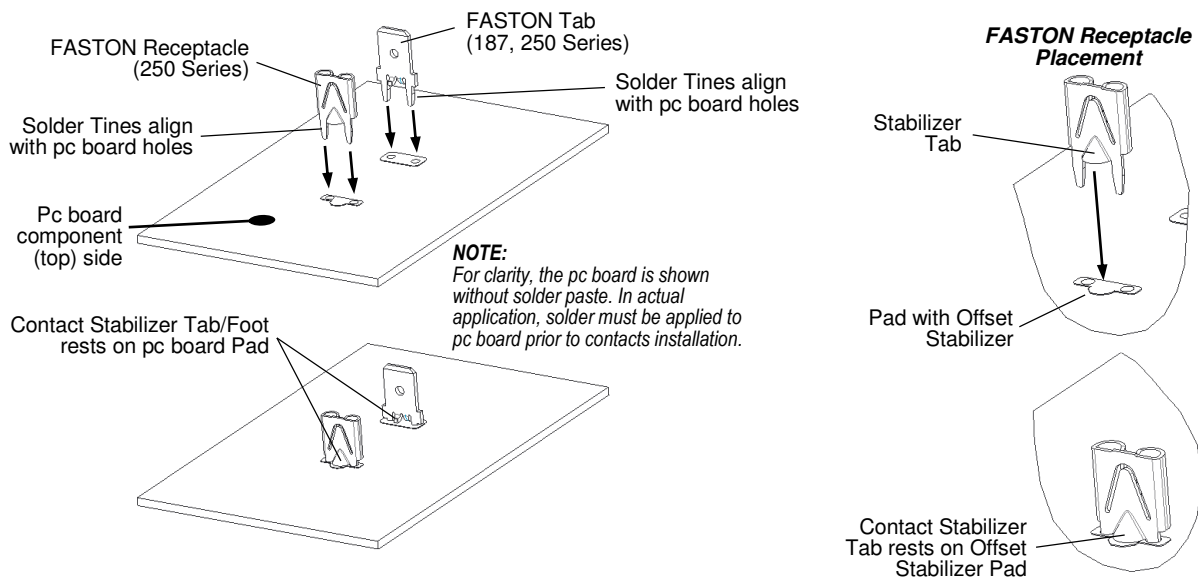

Figure 3
The contact installation is similar for both Tab and Receptacle contacts. However, the Receptacle contact has an orientation with respect to the pc board pad that must be observed. Contacts provided loose-piece can be placed on the pc board manually. Alternatively, contacts can be provided on a reel and placed with an automatic machine having a cut-off and gripper tool. The installation procedure for each contact is described below and is shown in Figure 3.
- b. Receptacle contacts have a preferred orientation with respect to the component-side solder pads that must be observed. The Receptacle Stabilizer Foot must align with the pc board pad “offset stabilizer” feature as shown in Figure 3.
Receptacle Contact Stabilizer Foot must align with pc board Offset Stabilizer pad as specified in para. 3.7,2,b and shown in Figure 3. Failure to maintain the specified alignment results in contact damage during solder paste re-flow.